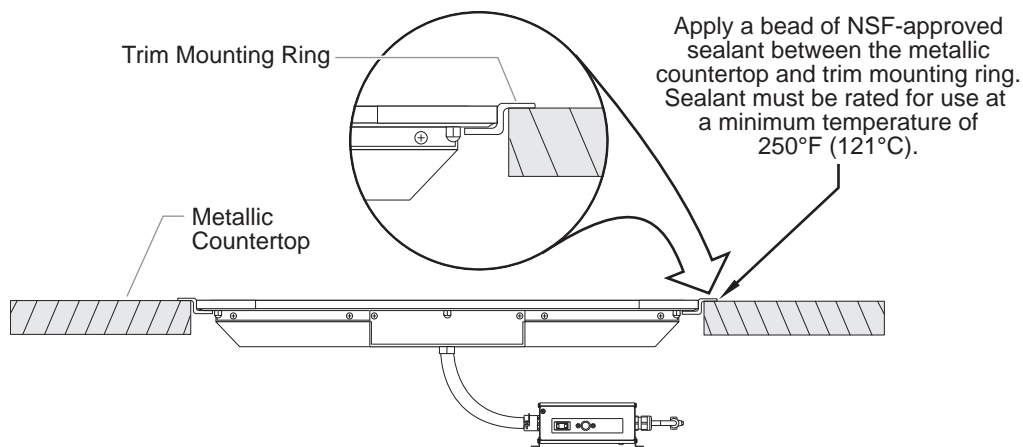

Figure 8. HBGB Countertop Installation
5. Apply a bead of NSF-approved sealant on the top edge of the countertop cutout and the underside of the trim mounting ring (see Figure 8). The sealant must be rated for use at a minimum temperature of 250°F (121°C).